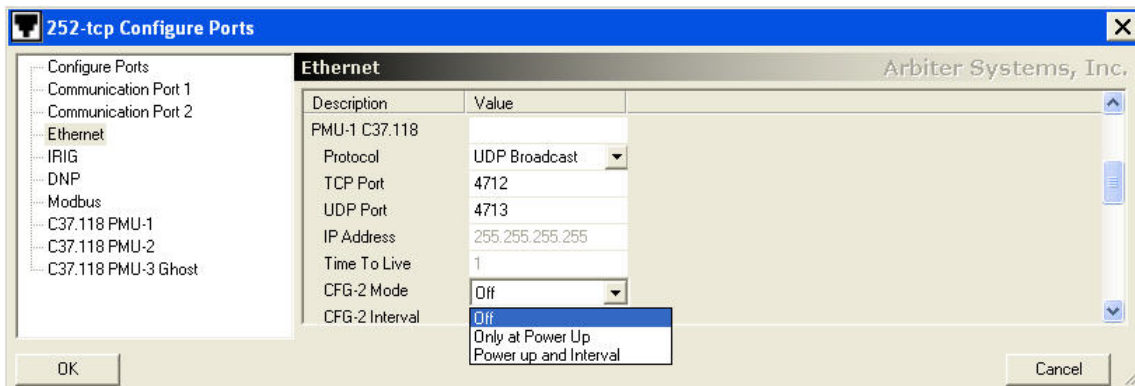

Figure 7.15: UDP Configuration Frame Mode and Interval
The 1133A was designed to transmit only in UDP; i.e. you cannot connect using UDP in the 1133A. Therefore, to configure the 1133A to broadcast C37.118 synchrophasor data, or to start or stop a C37.118 UDP broadcast, use a separate TCP connection. This is unlike any of the Autonomous (Auto) UDP modes, which will begin broadcasting immediately after being configured in PSCSV. Figure 7.15 illustrates CFG-2 Mode and CFG-Interval, which allows you to configure the UDP broadcast to send a configuration frame with the data UDP data. There are three choices: (1) OFF, (2) Send configuration frame once at the beginning of the broadcast, and (3) send the frame at the beginning of the frame and at minute intervals thereafter.